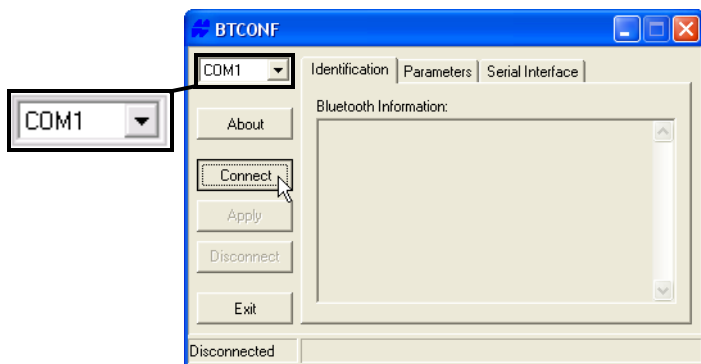

Figure 2-20. Select Communication Port and Click Connect
- From the drop-down list in the upper left corner, select the computer serial port used for communication (Figure 2-20).